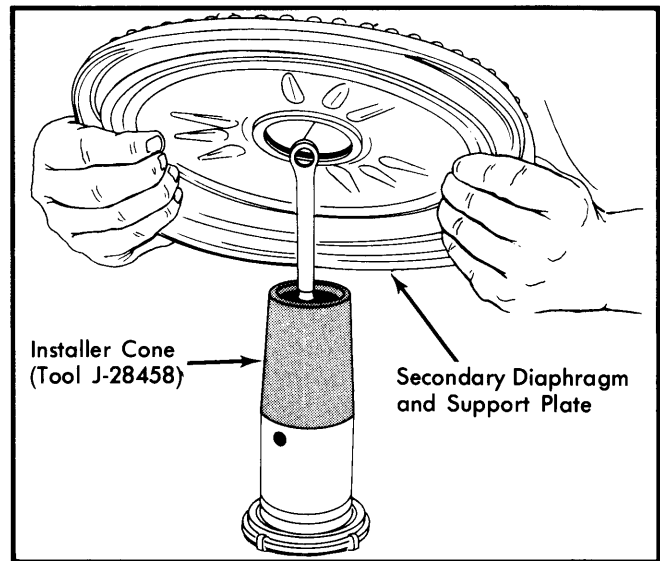

Fig. 3 Installing Secondary Diaphragm and Support Plate
2) Install secondary diaphragm and support plate over power piston and push down until it bottoms. See Fig. 3. Lubricate inside diameter of secondary power piston bearing and install in housing divider with flat surface of bearing on the same side as 6 raised lugs on divider.